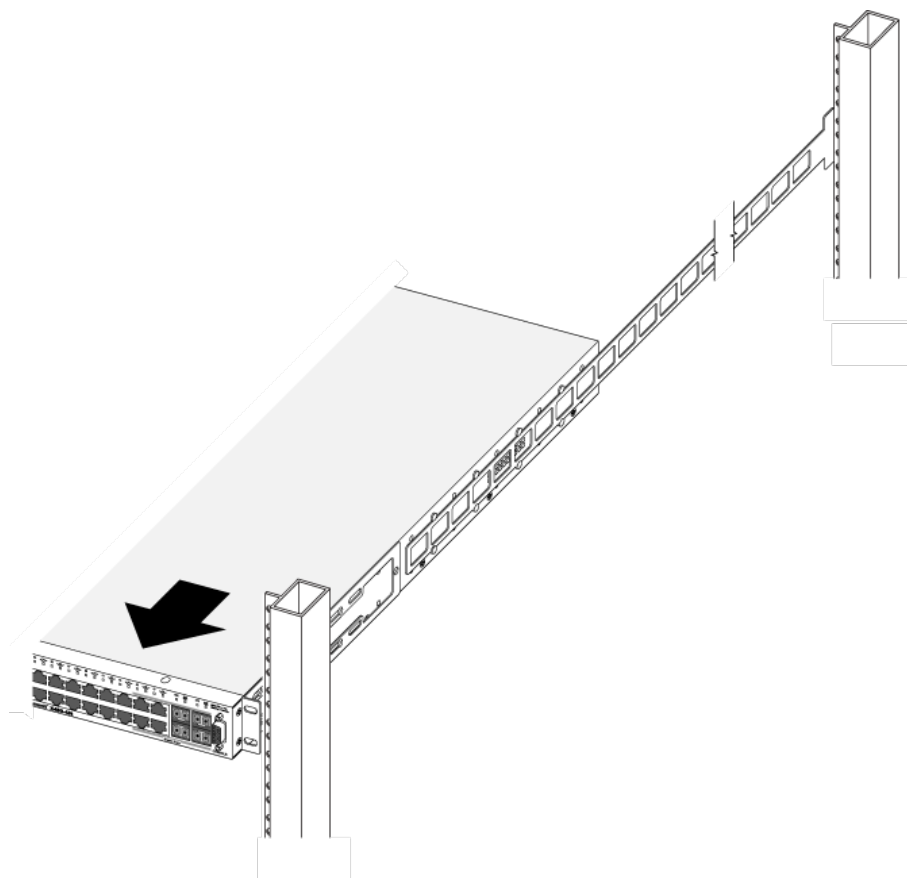

Figure 26: Removing the Switch from a Four-Post Rack
- For four-post installations, carefully slide the switch forward out of the cabinet and off the rear mounting brackets. See Figure 26.